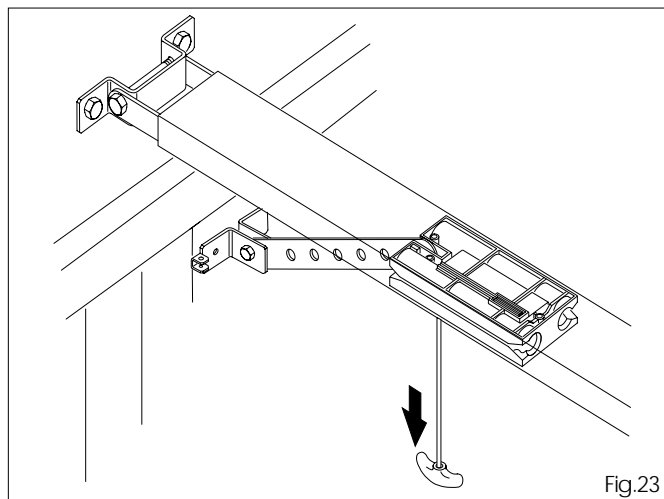

Fig.23
- 6.18 Release the operator, by pulling the release lever downward (fig.23).